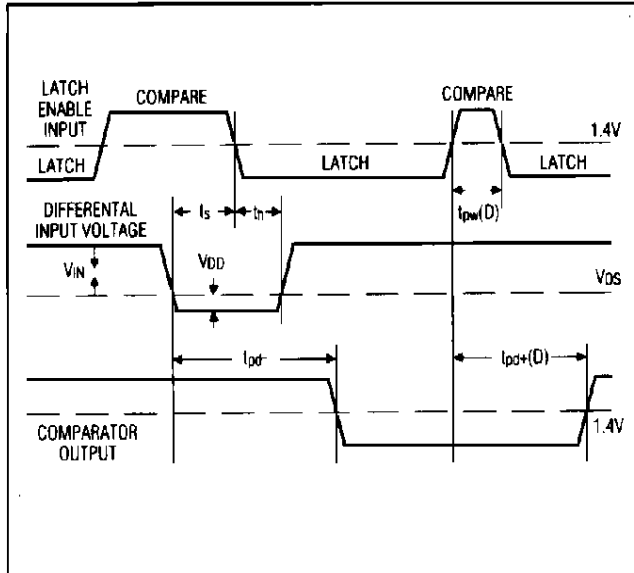

Figure 2. MAX900/902/903 Timing Diagram
- Note 5:** Guaranteed by design. Times are for 100mV step inputs (see propagation delay characteristics in Figures 2 and 3).
- Note 7:** See Timing Diagram (Figure 2). Owing to the difficult and critical nature of switching measurements involving the latch, these parameters cannot be tested in a production environment. Typical specifications listed are taken from measurements using a high-speed test-jig.